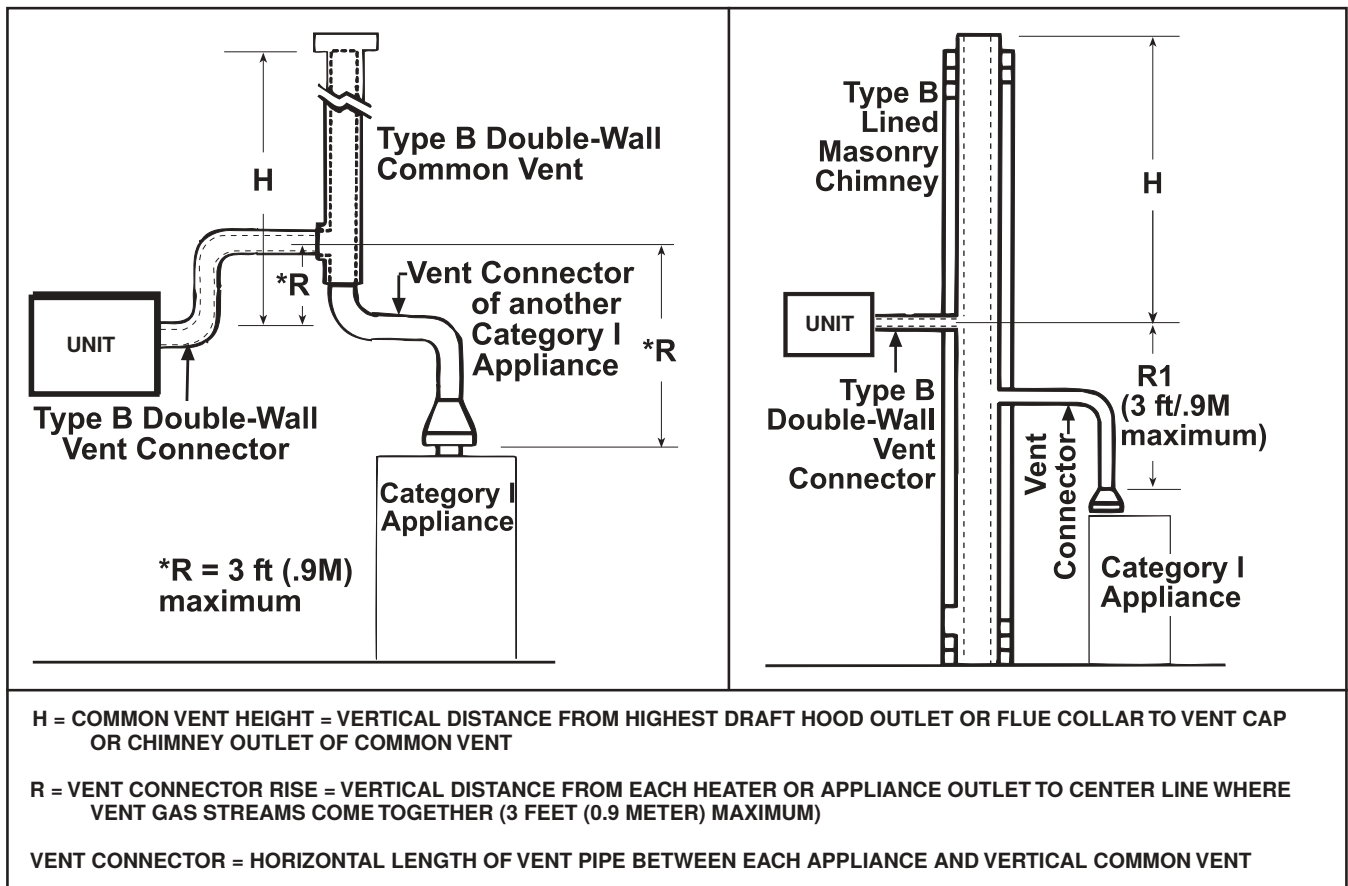

Figure 14. Typical Category I Common Vertical Vent
1. Select vent pipe and vent connector for Category I vent (see Figure 14). Unit sizes 30–75 use 4-inch pipe. Unit size 100 uses 5-inch pipe with an adapter.